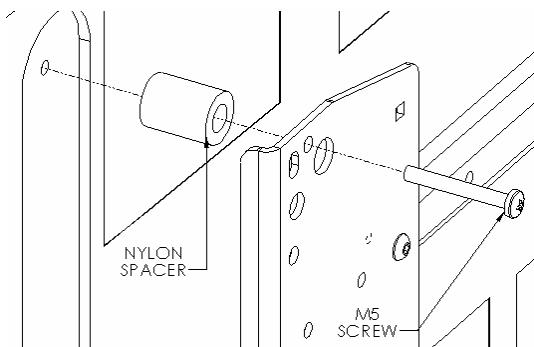
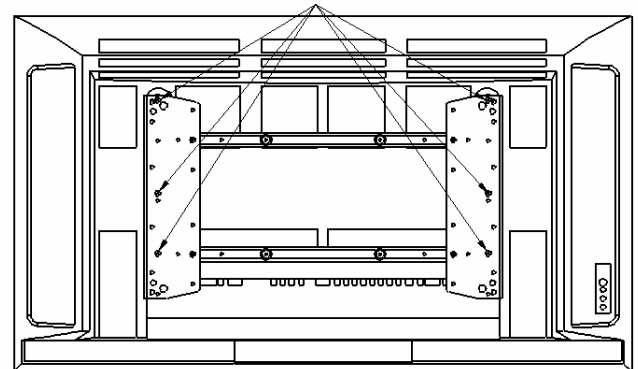

Figure 8
Figure 9
5. **Bracket Installation:** Stack nylon spacers over mounting holes of screen and attach brackets to back of display using the M5 screws (see Figure 8 & Figure 9). Do not over tighten screws.